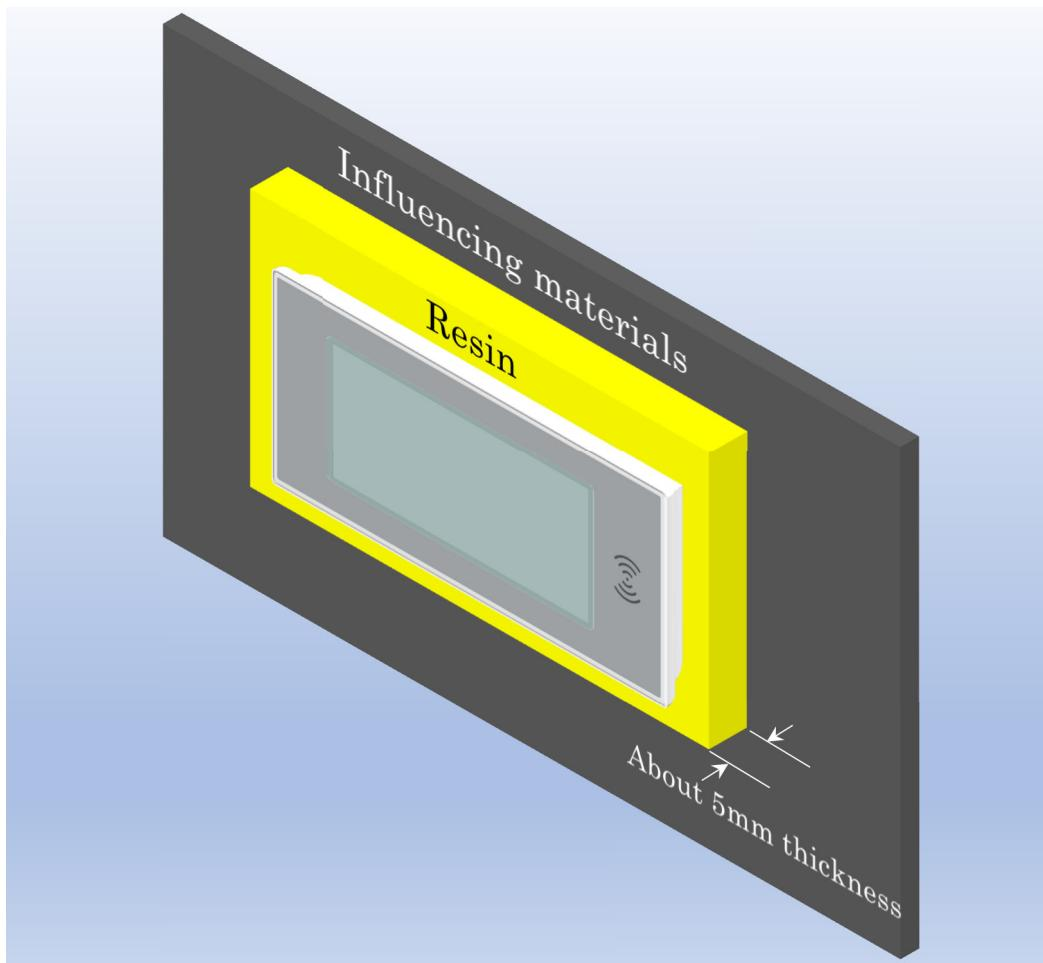

Figure 8.1 Example of E-G-Paper use
- Use a plastic plate or other means to create a distance as shown in Fig. 8.1.